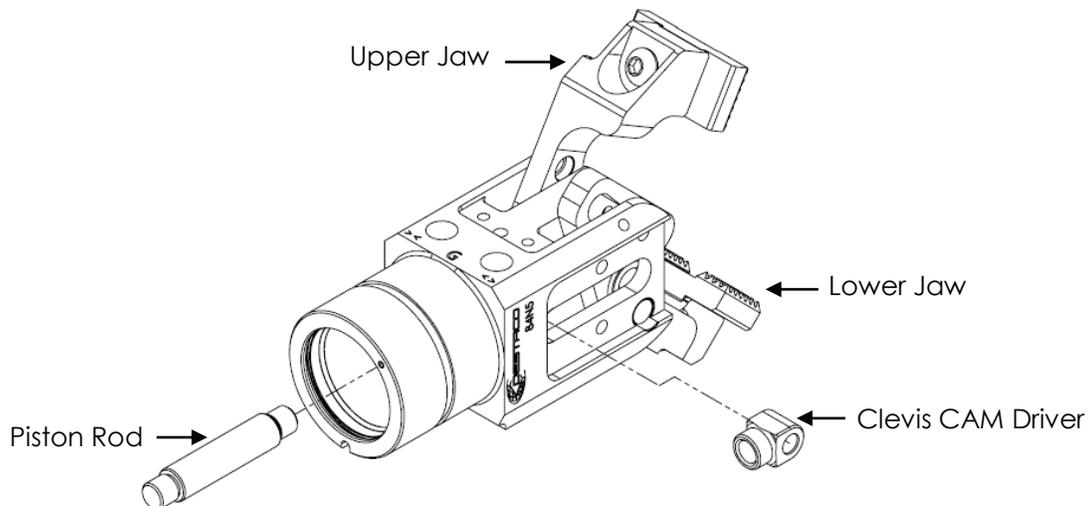

Fig.39
- Rotate the Upper and Lower Jaw on its axis toward an open jaw position. Remove the Piston Rod connected to the Clevis CAM Driver by rotating the piston rod in a counter-clockwise direction (see Fig.39).
- Remove the Clevis CAM Driver through the trident structure of gripper body (see Fig.39).
Note: The seal direction should be as shown in Fig.39 (detail view F). The U-cup seal face should be facing the direction of the cylinder bore.